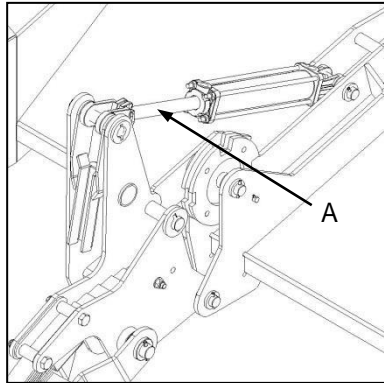

Fig. 5
- ✔ The transport locks may only be engaged if the hydraulic cylinders are fully extended, indicating that the implement is at its maximum height (Fig. 5-A).
- ✔ Die hoofvervoerslot kan gesluit word slegs as die hoofhidrouliese silinder op volle lengte is – wat aandui dat die implement op sy maksimum hoogte is (Fig. 5-A).